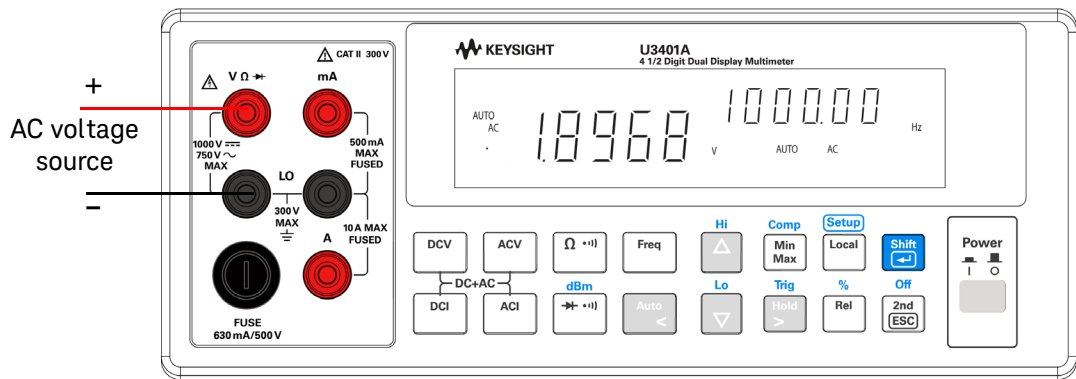

Figure 3-3 Connection terminal when measuring AC Voltage and Frequency
- 1 Connect the red and black test leads to the input terminal and probe the test points as shown in Figure 3-3.